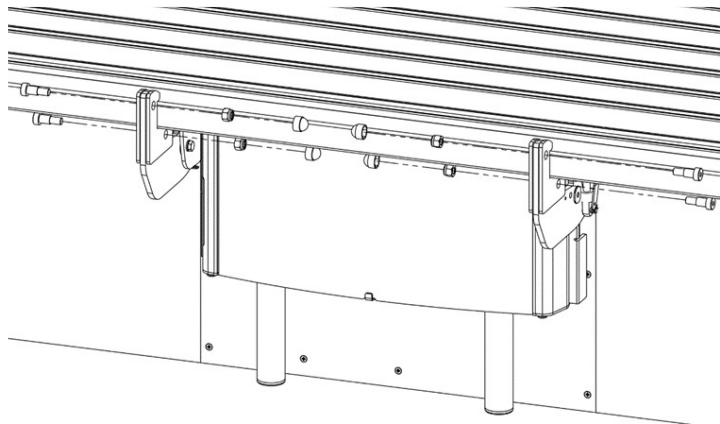

Fig 12.8d
- Once in position secure the provided M10 x 16 mm bolts and M10 nuts provided. Finish by covering the nut with the caps provided as shown in Fig 12.8d.